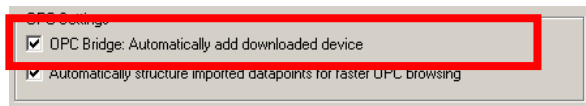

Figure 200: Enable bridge export in the project settings.
- In the Configurator menu go to **Settings → Project settings** This opens the project settings dialog on the tab **General** as shown in Figure 200.